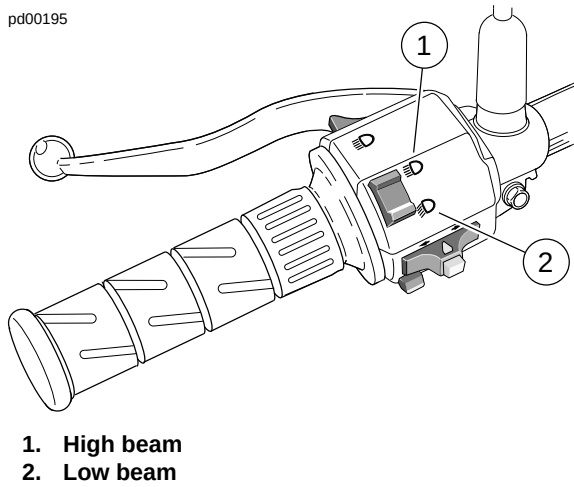

Figure 1-49. Headlamp Switch: XB Models
- a. See Figure 1-49. Turn ignition switch to IGN. Set handlebar headlamp switch to LOW beam position.
- a. See Figure 1-49. Set handlebar headlamp switch to HIGH beam position.